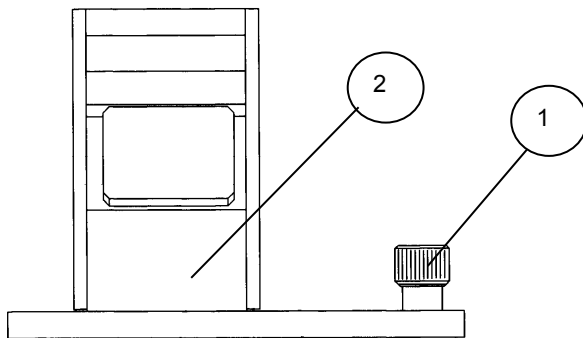

Figure 1: Side view of 30° Specular Reflectance Accessory
When the Benchmark baseplate has been installed, secure the Specular Reflectance accessory to the baseplate using the captive thumb screw (1), see figure 1.
The 30° Specular Reflectance Accessory requires no alignment as the mirror block carrying the mirrors (2) is fixed in position, see figure 1.